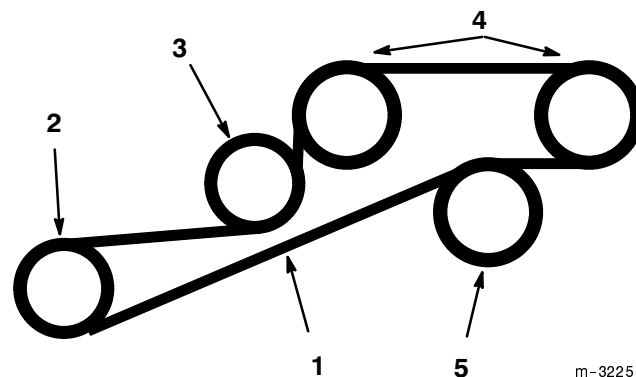

Figure 87
2. Push spring loaded idler down and remove traction belt from the engine, fixed idler and hydro pump pulleys (Fig. 87). Remove belt over clutch.
3. Install new belt over clutch and around engine, fixed idler and hydro pump pulleys (Fig. 87).
4. Push spring loaded idler down and align below traction belt. Release pressure on spring loaded idler (Fig. 87).